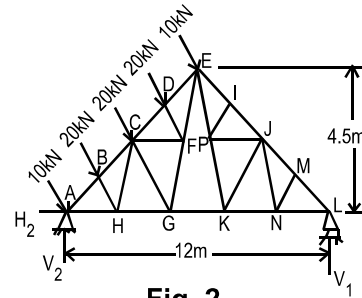

Fig. 2
2. (a) Determine the forces in all the members of the truss shown in Fig. 2. Tabulate the results and Indicate the magnitude and nature of forces on the diagram of the truss. (Use Method of Joints to solve this problem)